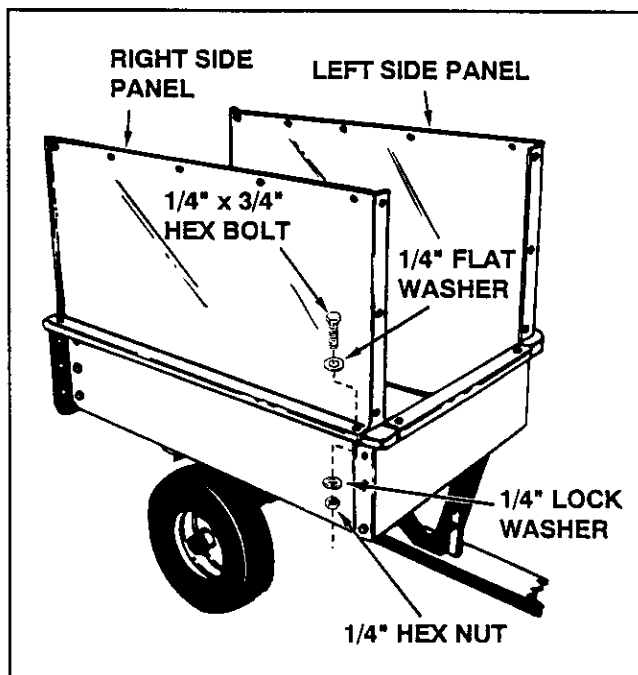

FIGURE 14
- Position the right side panel on top of the cart bed flange and the front corner cap. Align holes in side panel with holes in corner cap and holes in top of cart bed flange. Fasten together using two 1/4" x 3/4" hex bolts, two 1/4" flat washers, two 1/4" lock washers and two 1/4" hex nuts. Repeat on other side. See figure 14.